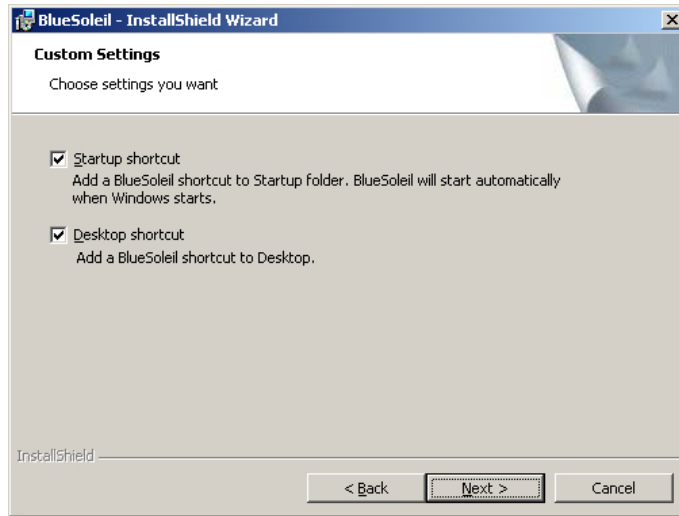

Figure 7-37: Bluetooth Driver Setup Options
Step 4: The **Custom Settings** screen in **Figure 7-37** appears next.
Step 5: Select the required installation configuration in **Figure 7-37** and click **NEXT** to continue.